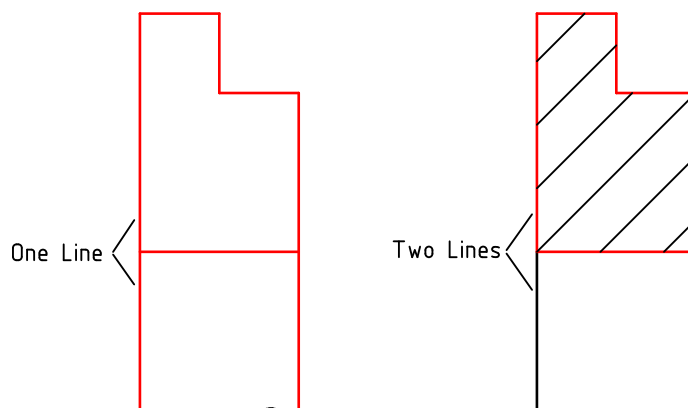

Figure 45: Preparation for the boundary entities.
1. Prepare the entities that surround the hatching area so they form a closed contour. The contour must be closed in a way that one entity is connected to the next one as shown in the right sketch of Figure 45.